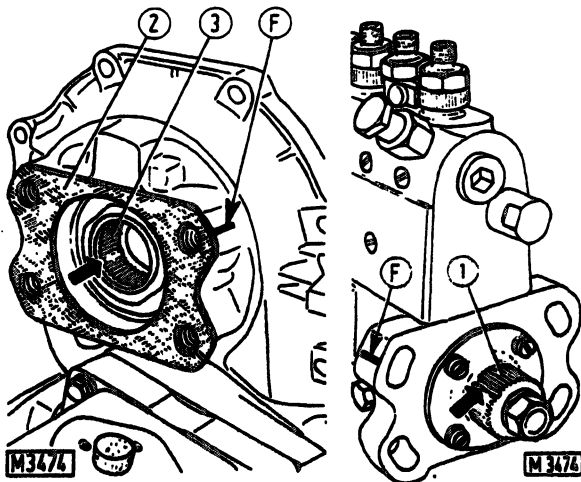

Fig. 69 - Installing injection pump on engine.
- install flat gasket (2, Fig. 69) on pump support;
- install pump spindle making sure master spline is correctly positioned; after installation bring reference marks (F) into alignment and secure pump with capscrews.